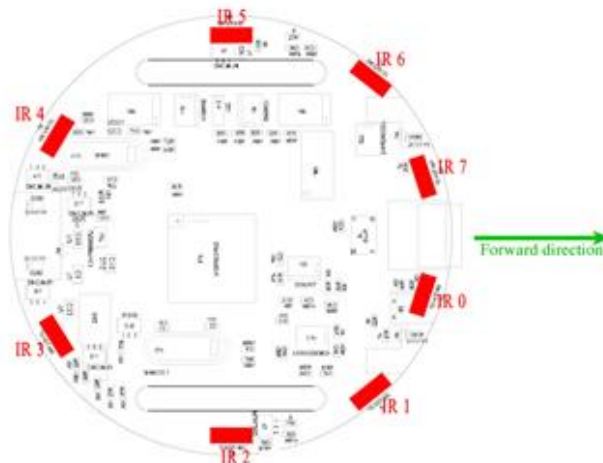

Figure 6: E-puck proximity sensors
Examine the *e-puck.c* code carefully: The distance sensors in the file correspond to those indicated in *Figure 6*. For example, `ps0` in the code corresponds to *IR0* in *Figure 6*, `ps1` in the code corresponds to *IR1* in the figure, etc. Note that sensor numbers increment going clockwise; `ps0` and `ps7` are at the front of the robot.
1. **(I, 5):** Modify *obstacle.c* so that your robot becomes capable of avoiding a wide variety of obstacles in different mazes. Start with lines 107-115. Here you can see that the current algorithm looks at the value of `ds_value[0]`, corresponding to IR 0 in Figure 6. Extend this approach to use both of the central proximity sensors on the front of the e-puck (i.e., both IR 7 and IR 0). Make sure you save your new controller code in *obstacle.c* and your world in *obstacle.wbt*.